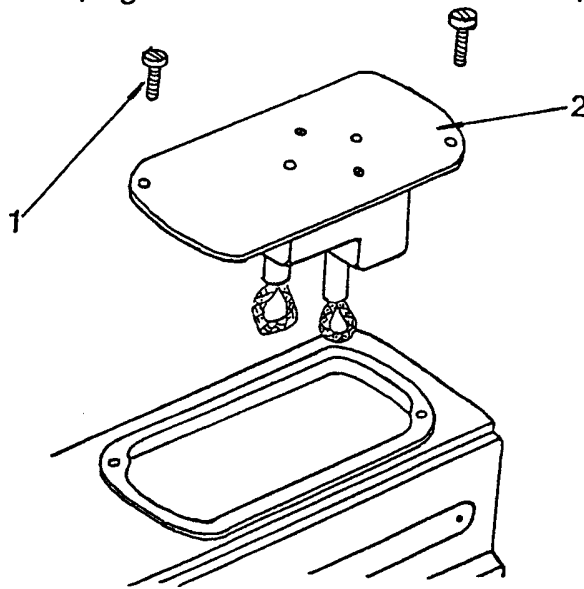
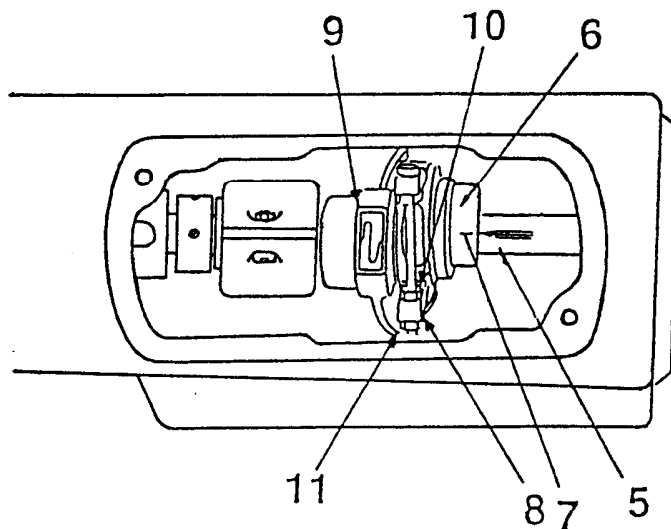

Fig.16
Fig.17
## TIMING THE NEEDLE WITH FEED (Fig.16, Fig.17)
Incorrect clearance between the fork (4, Fig.17) of feed forked connection and feed fork collar (5, Fig.17) will bring irregular stitch length or overheating, etc. To adjust this, open the cover plate (1, Fig.17).
1. Remove the cover plate (3, Fig.16) and the oil reservoir (4, Fig.16).
2. To increase the clearance, loosen the screw (10, Fig.17) and turn the screw (11, Fig.17) to left or counter-clockwise.